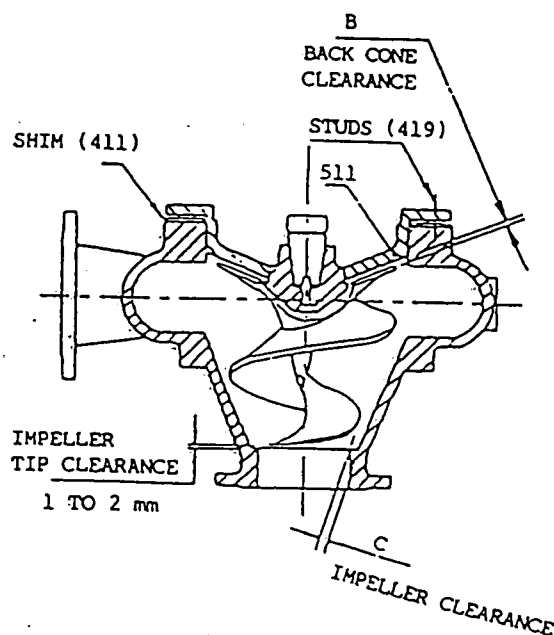

Fig. 14
When pumping thick sludges or viscous material, larger clearances may be necessary to avoid friction; larger clearances may actually increase flow capability. Therefore, for thick sludges and high consistency materials, double the clearances in Figure 14 should be used.
Now back off the threaded regulator nut exactly the number of turns specified in the last column of Figure 14 (according to pump size). Holding each threaded regulator nut from turning, tighten the three hex nuts (413) (this pulls liner (421) away from impeller (401) the required clearance, and also locks the regulator nut in place).
With a feeler gauge, check the actual clearance between impeller and liner (reaching in through the suction of the pump). If the clearance is significantly different than clearance "C" shown in column 2 of Figure 14, it is possible that the wear is excessive or not uniform: disassembly and inspection is recommended.
To estimate correct shim thickness, lower motor into casing just until impeller cannot be turned. Measure gap between motor and volute casing at several places around motor flange and take average. Now add the distance "B" shown in column 3 of Figure 14 to the average gap measured; this will be approximate shim thickness required to obtain correct clearance "C" shown in column 2 of Figure 14.
Tighten fasteners (419) again, and with a feeler gauge, check the actual clearance between impeller and liner (reaching in through the suction of the pump). If the clearance is significantly different than "C" shown in column 2 of Figure 14, it is possible that the wear is excessive or not uniform: disassembly and inspection is recommended.